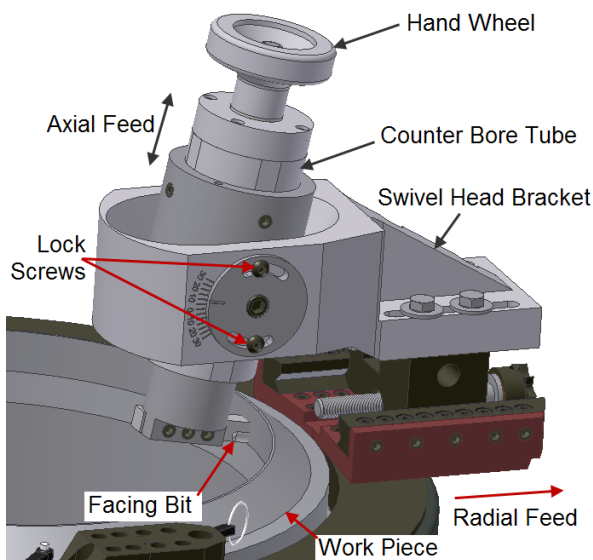

Figure 13
2. Insert the facing bit into the counter bore bar. The cutting side of the bit should face the setscrews in the bar (see Fig. 13). Loosen the lock down screws and swivel the counter bore to match the desired counter bore profile. Tighten the lock down screws. Adjust the counter bore tube height and lock into place with the setscrews on the flat of the counter bore tube. Use the star wheel wrench and the hand wheel to position to counter bore attachment at the edge of the inner wall of the work pieces.